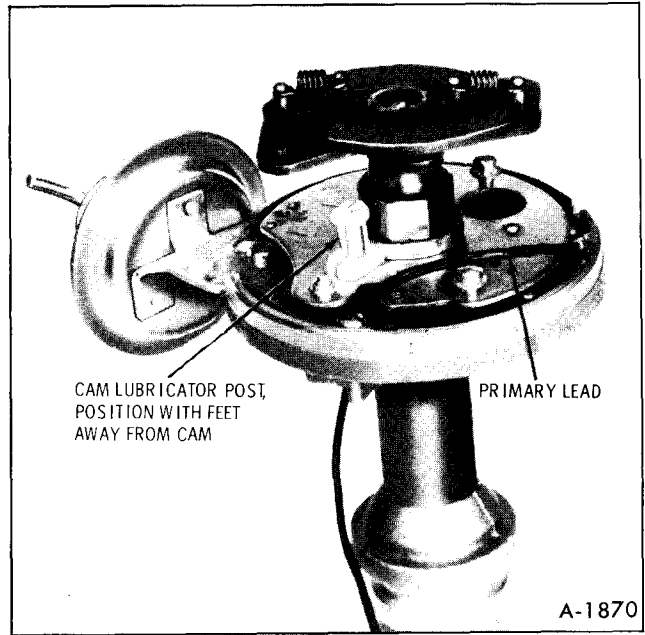

Figure 31—Cam Lubrication
3. The cam lubricator is mounted on breaker plate with feet away from cam. Figure 31. Apply a